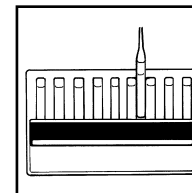

Figure 5
9. Obtain a test result by placing the ampoule between the color standards until the best color match is found (fig 5).